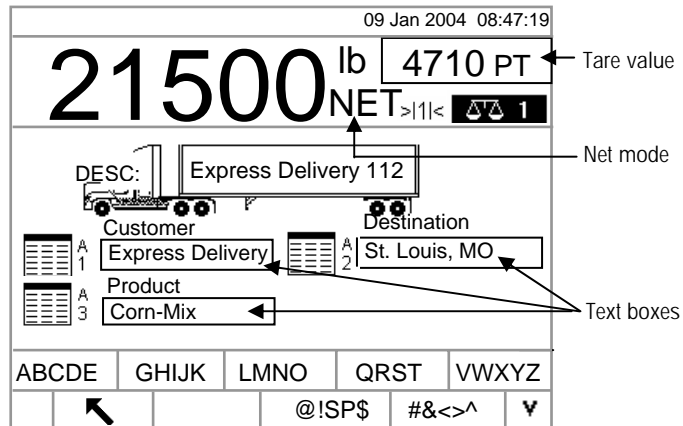

Figure 2-11: A1–A3 Tables Data Entry Screen
2. Use the alpha keys and the numeric keypad to enter the Quick ID or Short A/N ID of the desired database information in the text boxes that correspond to the A1, A2, A3, and A4 (if enabled) tables (see Figure 2-11).